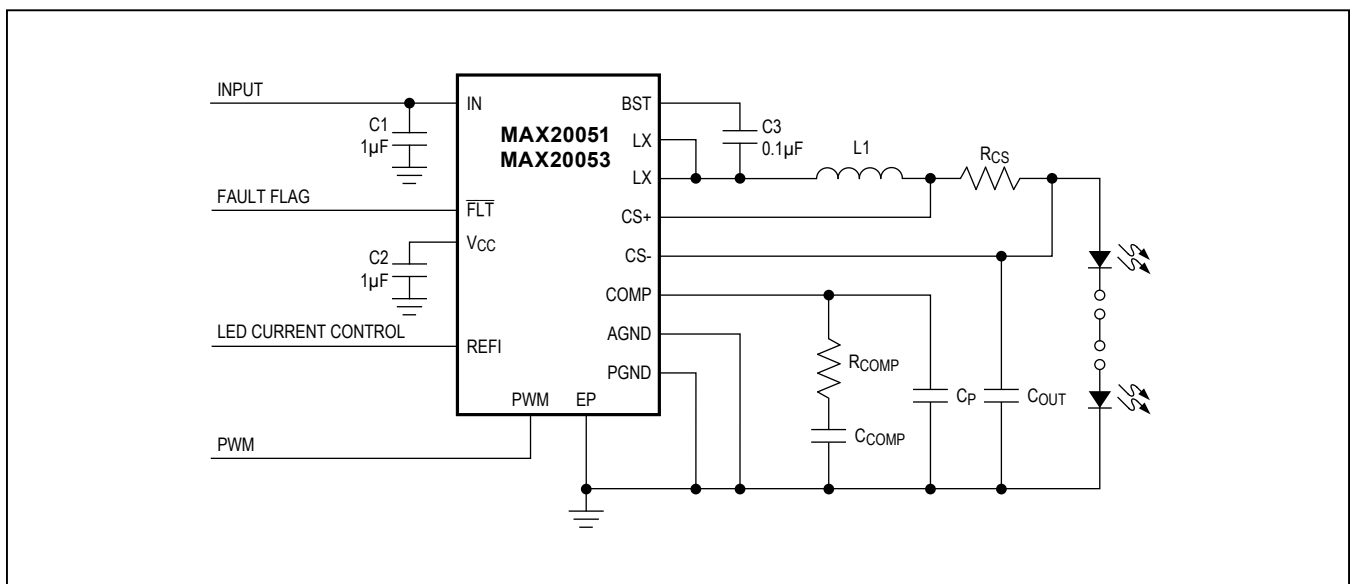

Figure 4. Typical Application Circuit Using the MAX20051
Normal sensing of the LED current should be done on the high side where the LED current-sense resistor is connected to the inductor. The other side of the LED current-sense resistor goes to the anode of the external LED string. The LED current is programmed using R_{CS} (see Figure 4). When REFI is set to a voltage >1.3V, the internal reference regulates the voltage across R_{CS} to 220mV. The current is given by:
The MAX20050/MAX20052 have internal loop compensation and there is no user-available adjustability of the loop compensation components. In the case of the MAX20051/MAX20053, an external COMP pin is present and an external compensation network is required for stable operation. See Figure 4 for the typical application circuit using the MAX20051.
- 1) Large switched currents flow in the IN and PGND pins and the input capacitor C1 of Figure 4. The loop formed by the input capacitor should be as small as possible by placing this capacitor as close as possible to the IN and PGND pins. The input capacitor, device, output inductor, and output capacitor should be placed on the same side of the PCB and the connections should be made on the same layer.